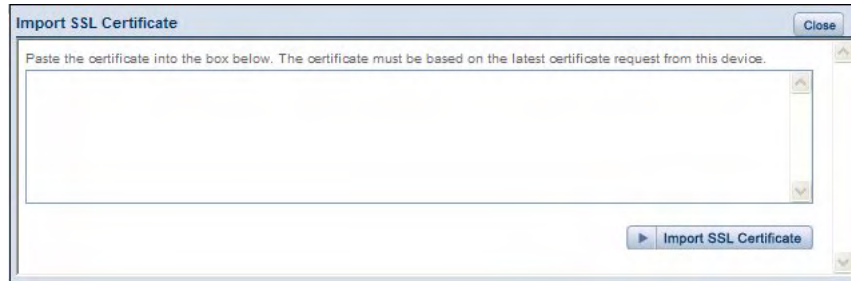

FIG. 12 Import SSL Certificate window
2. Click the *Import SSL Certificate* link to open the Import SSL Certificate window (FIG. 12).